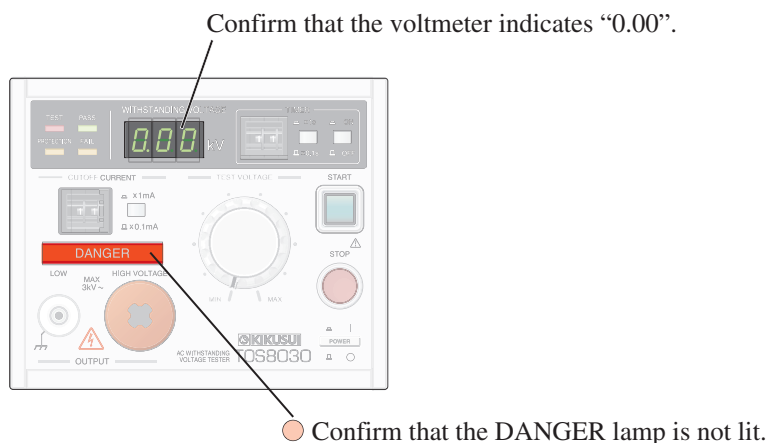

Fig.3-1 Checking that No High Voltage is Being Output
1. Check the indications at the two locations shown in Fig. 3-1.